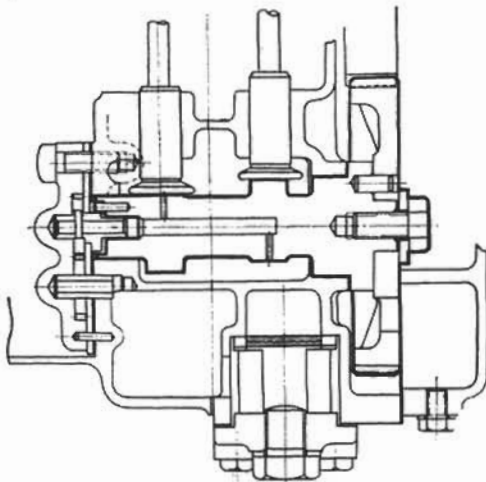

Fig 3.33 Cross view of camshaft assembly
4. As shown in Fig. 3-33, hold the clutch outer case with a special tool and free retainer ring by compressing drive plate. Clutch assembly can be disassembled.